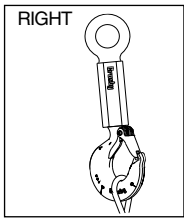
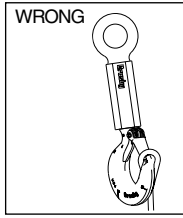

Figure 3
Figure 4
- When placing two (2) sling legs in hook, make sure the angle between the legs is less than 90° and if the hook or load is tilted, nothing bears against the bottom of this latch (See Figures 3 & 4).
- See OSHA Rule 1926.1431(g)(1)(i)(A) and 1926.1501(g)(4)(iv)(B) for Personnel Hoisting by Crane or Derricks. A Crosby or McKissick Hook with a Positive Locked PL-N/O or S-4320 Latch may be used to lift personnel.
- Always make sure the hook supports the load. (See Figure 3 on page 156). The latch must never support the load (See Figure 4 on page 156).
- When placing two (2) sling legs in hooks, make sure the angle between the legs is less than 90° and if the hook or load is tilted, nothing bears against the bottom of this latch. (See Figures 3 & 4)